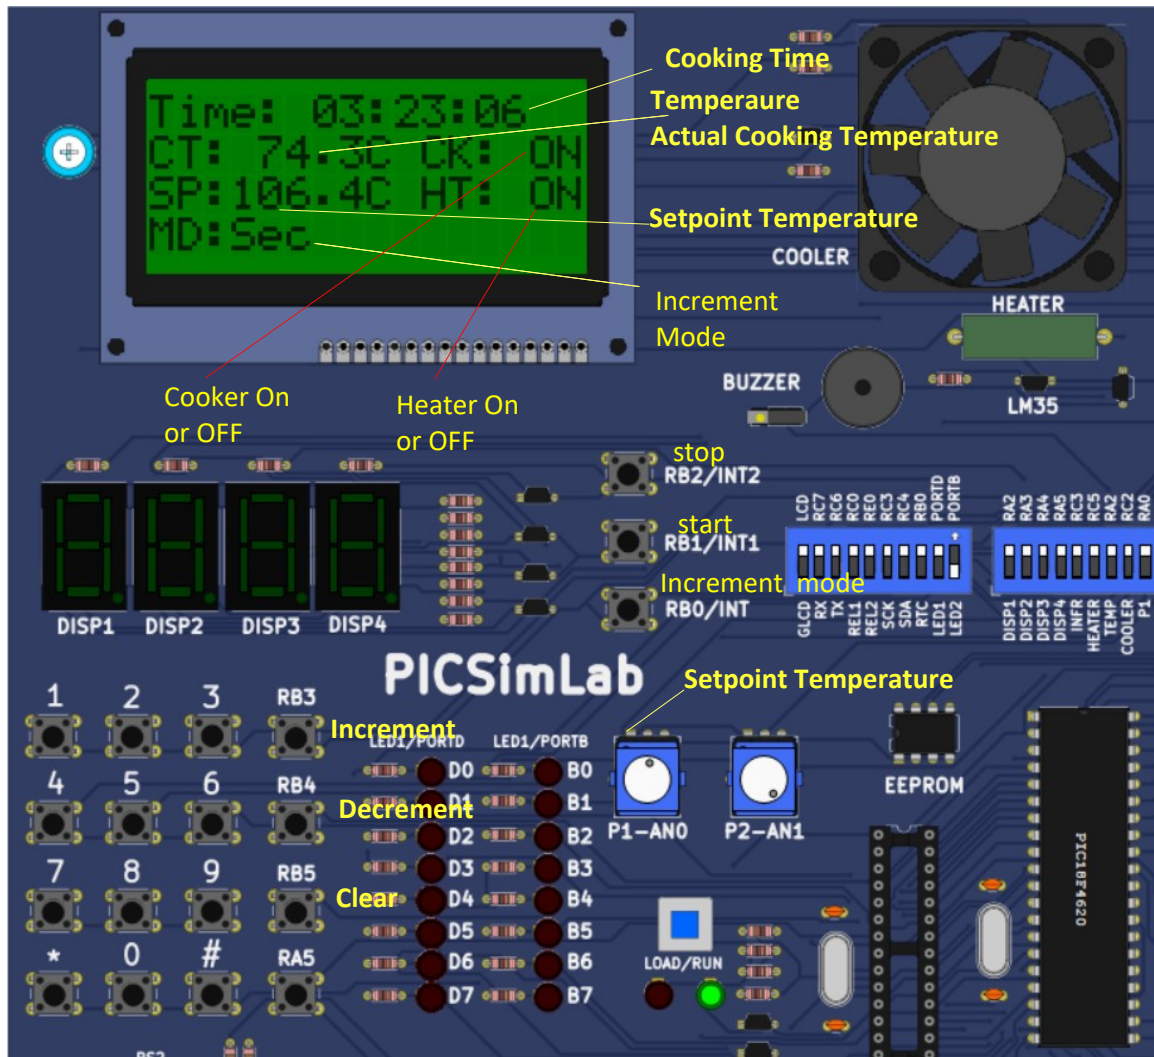

Figure 1
Display the Set Point on the **Third Line of the Display**. See Figure 1.
Display the Temperature on the **Second Line of the Display**. See Figure 1.
It shall be displayed as **Time: HH:MM:SS**. See Figure 1.
Examples MD: Min another Example MD: 10Sec. See Figure 1
**SP: 121.1 HT: ON See Figure 1 ( HT is Heater it Can be On or OFF)**
**See Figure 1 on Next Page.**